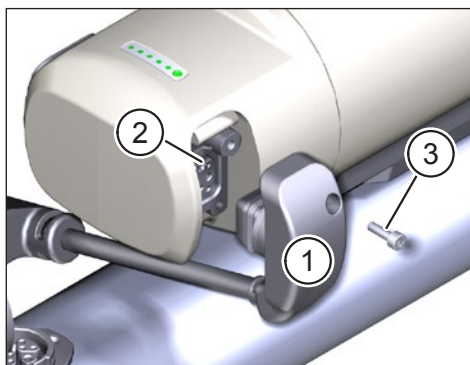

Fig. 7: Fasten the connection cable to the Range Extender
- ▶ Connect the plug (Pos. 1 in Fig. 7) of the connection cable to the socket (Pos. 2 in Fig. 7) in the Range Extender.
- ▶ Fasten the connector to the Range Extender with the M3 × 8 socket head screw (Pos. 3 in Fig. 7) included in the scope of delivery of the cable, with a torque of 1 Nm. Never use a longer screw. Otherwise there is a risk of damaging the electronics in the Range Extender.